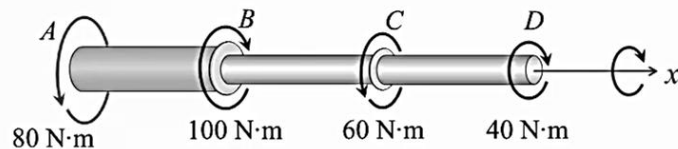

Fig. 4
4. For the shaft subjected to the applied torques as shown in Fig. 4, determine the angle of twist of end D relative to fixed end A.